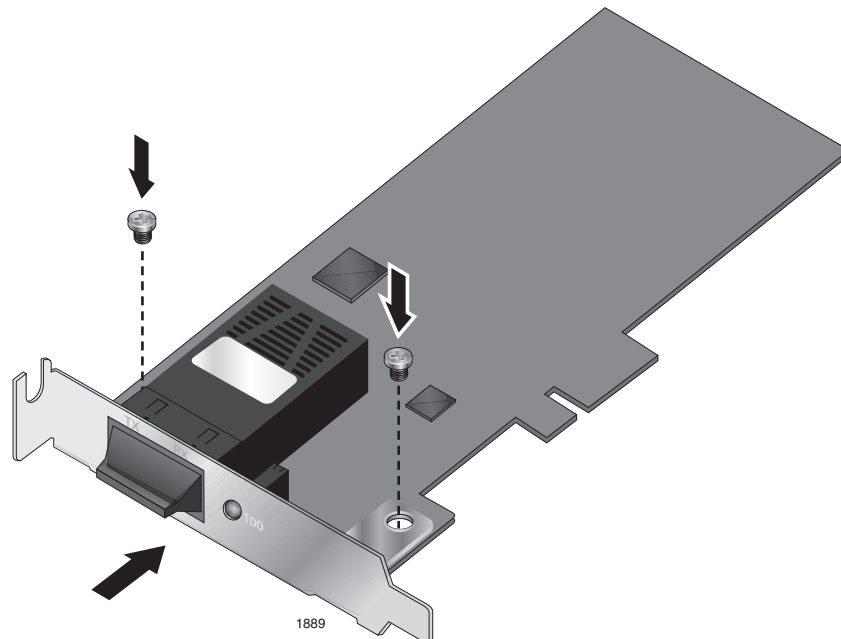

Figure 8. Fastening Screws onto Low-Profile Bracket
2. Align the tabs of the low-profile bracket with the holes on the adapter and fasten the screws onto the adapter. See Figure 8.